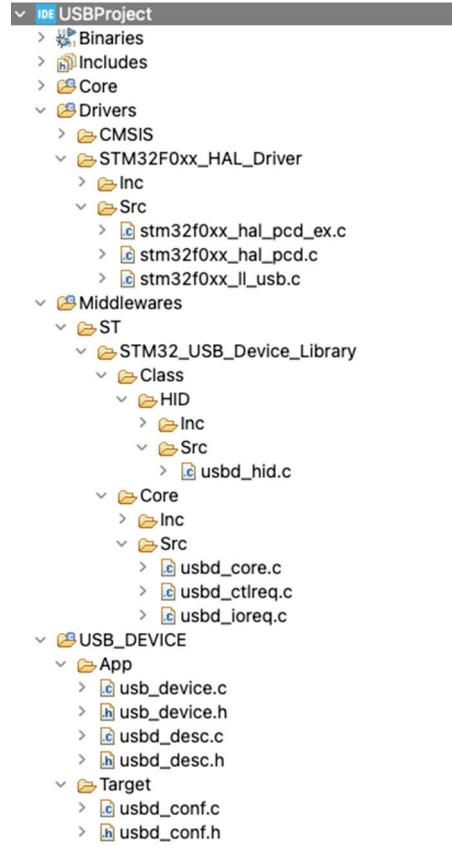
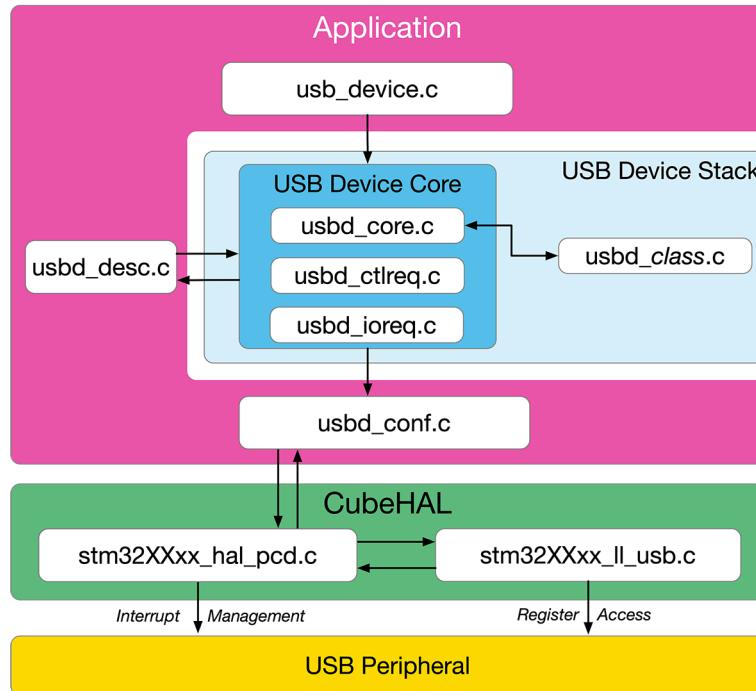

Figure 12: Structure of the generated project
Figure 13: Architecture of the generated application with STM32 USB Device Library
The **Figure 12** shows the new project structure once that CubeMX generates the code with the USB Device library and the wanted USB class¹⁰. At the same time, the **Figure 13** shows the whole application architecture: keep it on hands while reading the rest of this paragraphs.
- **Class/<class>**: this folder contains all C source and header files related to the selected USB Class. For example, in Figure 12 you can see the file **usbd_hid.c** containing all the necessary code to handle the HID class.